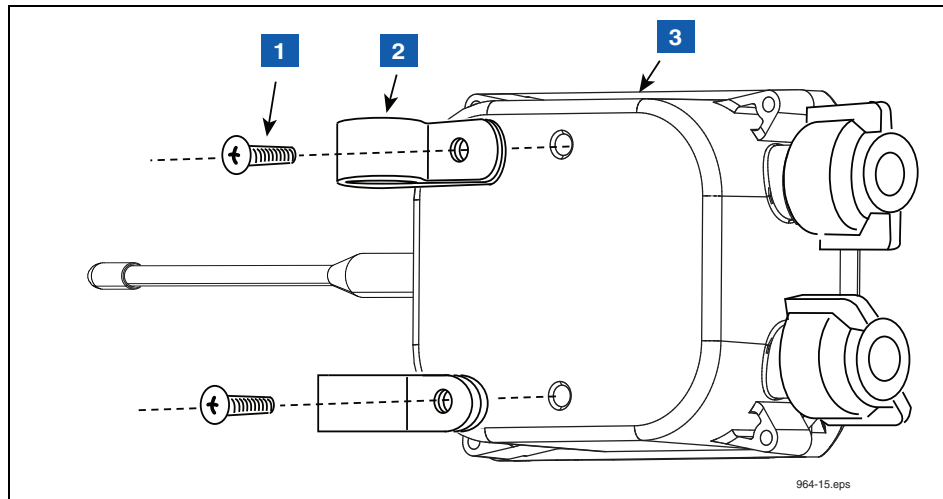

Figure 15. Attaching Conduit Clamps to Transmitter Housing
3. Attach two conduit clamps to the Transmitter as shown in Figure 15. Do not tighten screws at this time.
LEGEND FOR NUMBERED BOXES IN Figure 15